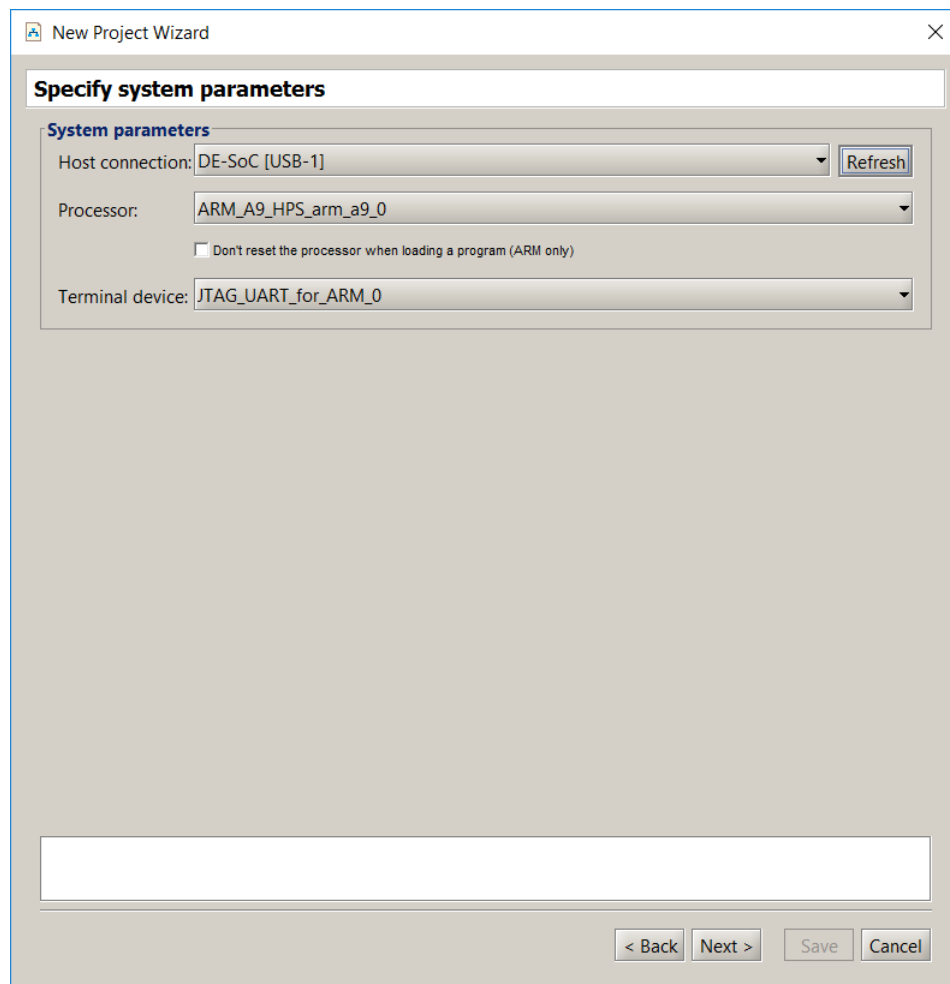

Figure 9. Specifying system settings.
4. Click **Next** to advance to the window in Figure 9. This window is used to specify the connection to the FPGA board, the processor that should be used (some hardware systems may contain multiple processors), and the terminal device. The **Host connection** drop-down list contains the physical connection links (such as cables) that exist between the host computer and any FPGA boards connected to it. The ARM processors available in the system are found in the **Processor** drop-down list, and all terminal devices connected to the selected processor are displayed in the **Terminal device** drop-down list. We discuss terminal devices in Section 5.
Accept the default choices that are displayed in Figure 9. If the Host Connection box is blank, make sure that the DE1-SoC board is connected to the host by a USB cable and that its power is turned on. Then, press the **Refresh** button and select the USB Blaster as the desired choice. For the DE1-SoC board the required choice is DE-SoC.